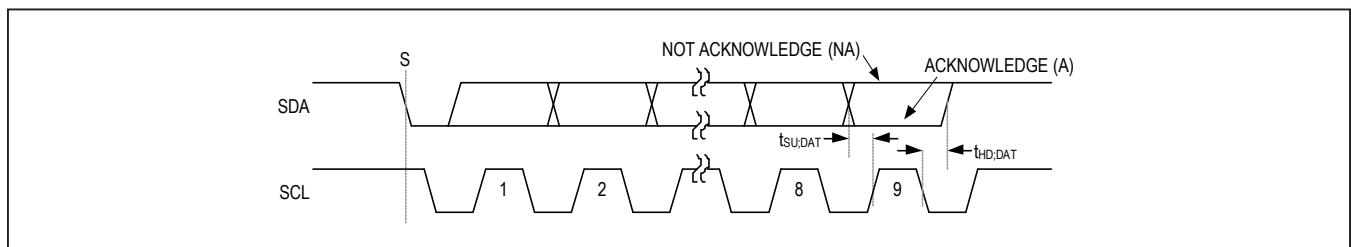

Figure 4. Acknowledge Bit
Both the I2C bus master and the MAX77756 (slave) generate acknowledge bits when receiving data. The acknowledge bit is the last bit of each nine bit data packet. To generate an acknowledge (A), the receiving device must pull SDA low before the rising edge of the acknowledge-related clock pulse (ninth pulse) and keep it low during the high period of the clock pulse. See Figure 4. To generate a not acknowledge (nA), the receiving device allows SDA to be pulled high before the rising edge of the acknowledge-related clock pulse and leaves it high during the high period of the clock pulse.